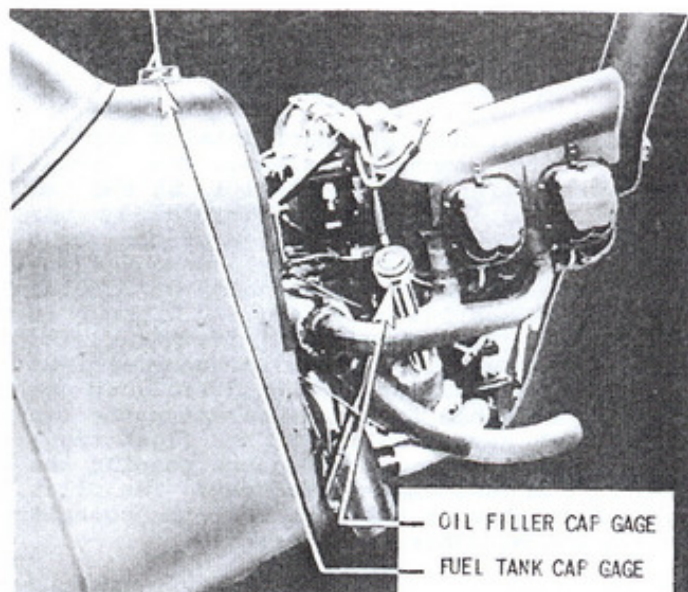

Figure 5 -
b. The airplanes are powered by one Continental A65-8 (AAF designation O-170-3) engine mounted in the nose. (See figure 5.) They
are air cooled, with four horizontally opposed cylinders and overhead valves. The normal horsepower rating at sea level is 65 and the rpm 2300. The lubricant is admitted to the sump through the oil filler cap on the right side of the engine behind the cylinders (figure 5). The fuel tank, with a capacity of 12 U.S. gallons (10 Imperial gallons), is located in the fuselage just behind the fire wall. The fuel is admitted to the tank through the fuel tank cap just ahead of the windshield on the outside. Attached to and penetrating the cap is the fuel gage. It is of the float type, not calibrated, the extended end showing the proportion of fuel supply remaining. The pilot can readily observe the gage from the cockpit through the windshield (figure 5).
1. The Lubricating System. (See figures 5, 8, 9, and 19.) - The lubrication of the